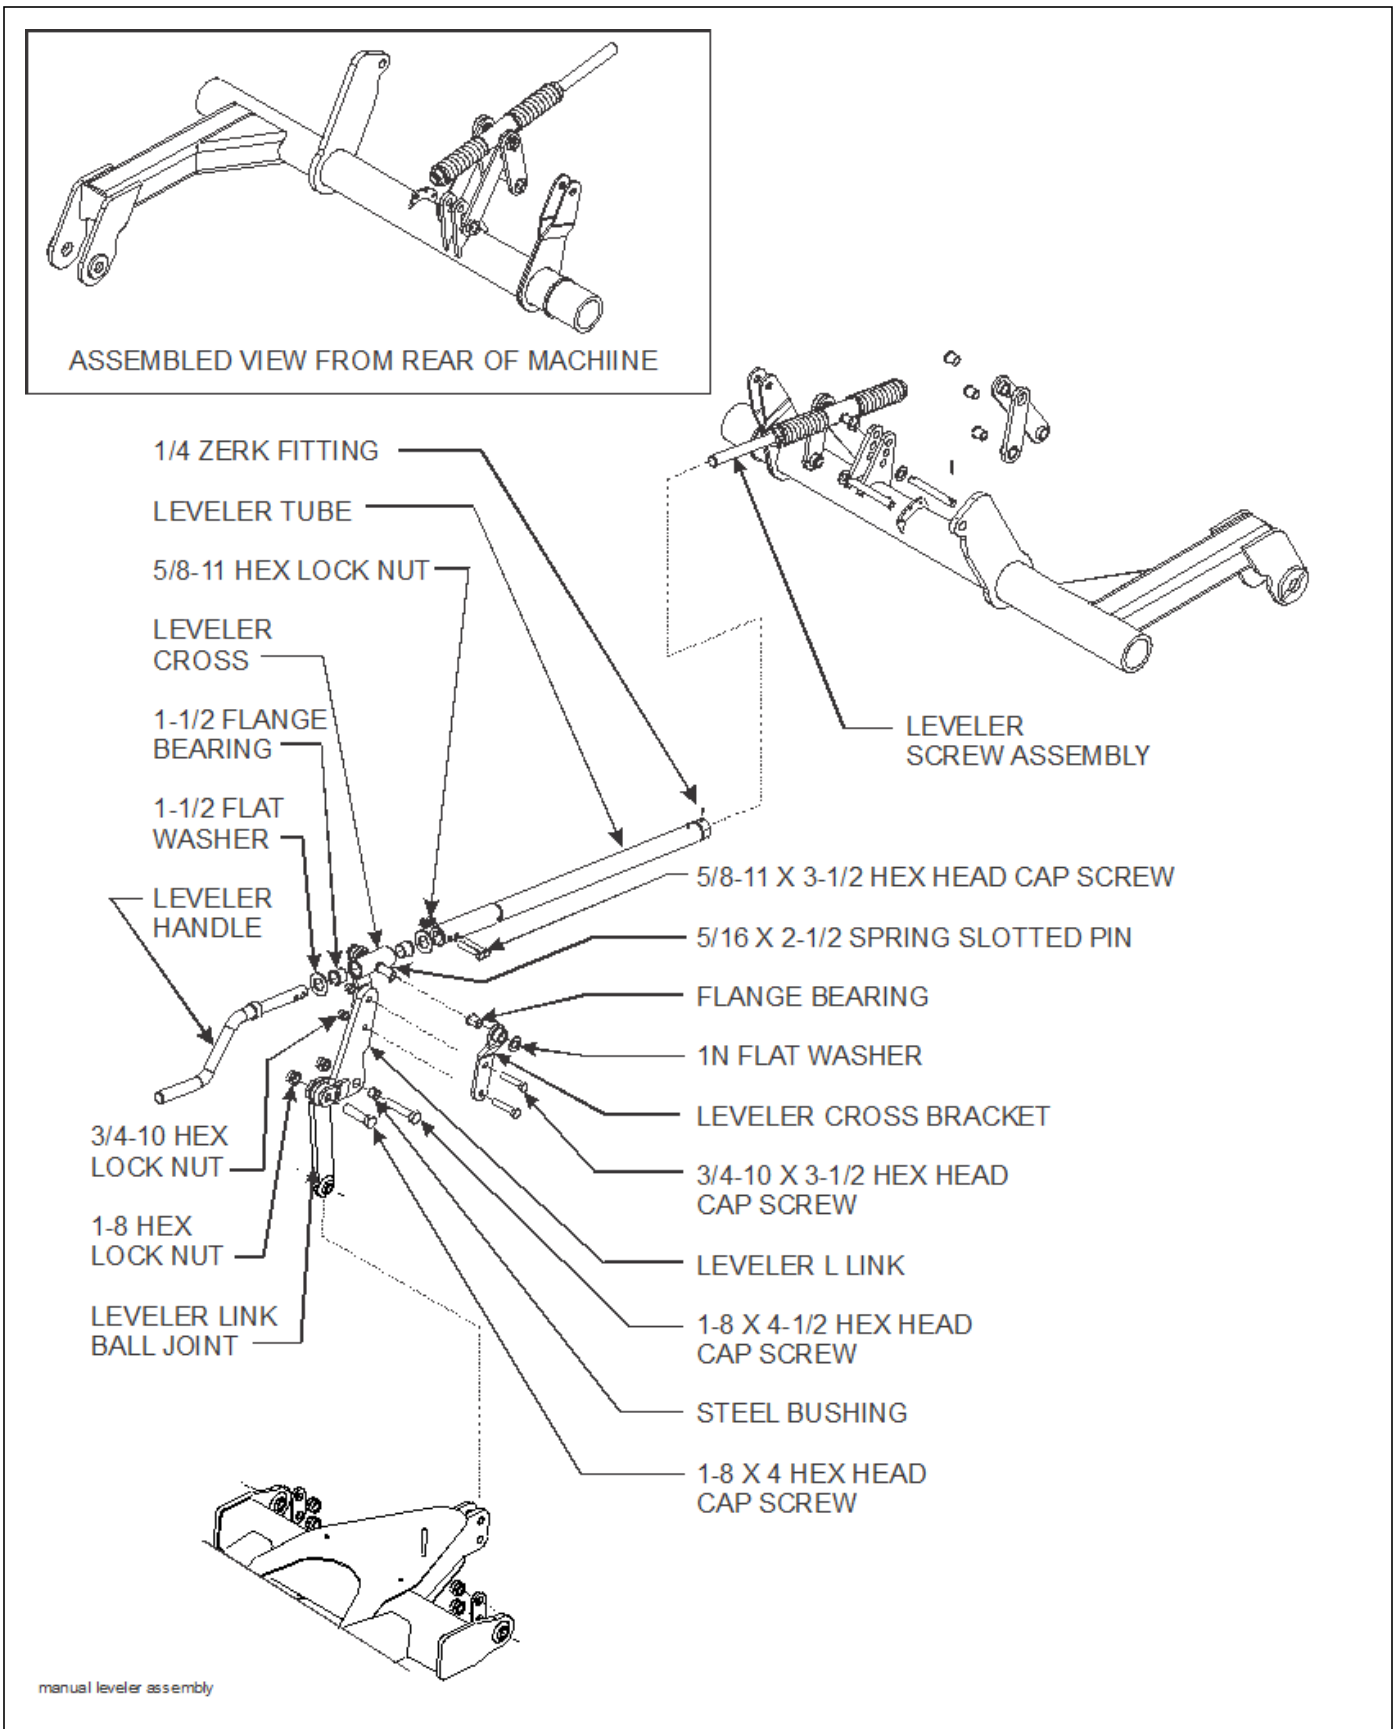

Figure 3-3: Manual Leveler Installation
1. Using the manual leveler, screw the leveler tube onto the leveler screw assembly (**See Figure 3-3.**) Initially leave approximately 3" of threads visible, further adjustment may be required. Rotate the tube so that the zerk hole in the threaded end is pointing upward.